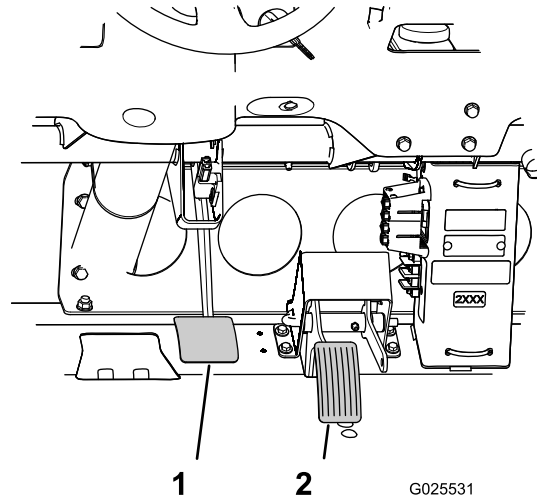

Figure 77
- Lift up on the brake pedal (Figure 77) until it contacts the frame.